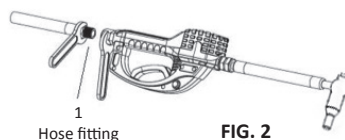

FIG. 2
2. Apply thread sealant to the male threads of the hose fitting. Thread the hose fitting into the swivel (1) and tighten firmly (FIG. 2). Make sure you let sealant cure to the manufacturer's recommendations before you let fluid into the system.